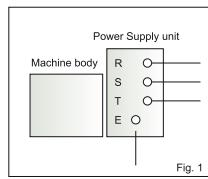
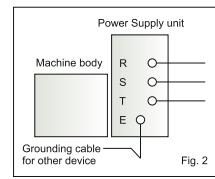

Fig. 1
Fig. 2
4. Ground connection: The CNC Wire Cut EDM must always be grounded to prevent external noise and prevent radio disturbance and earth leakage. Class C grounding (grounding resistance  $10 \Omega$  or less) as set forth in the Electric Facility Standards is recommended for the DM. (Fig. 1). Common grounding can be used if noise from other device will not enter through the common grounding; The grounding cable must be connected independently to the grounding location and use  $4\text{mm}^2$  grounding wire (Fig. 2)